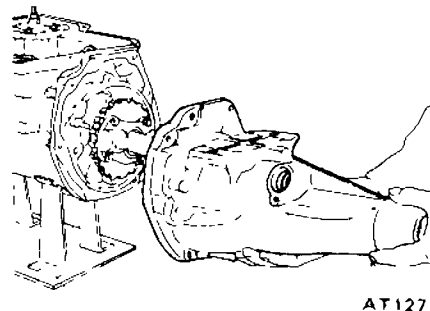

Fig AT-61 Removing rear extension
- 15 Remove rear extension by loosening securing bolts. See Figure AT-61.